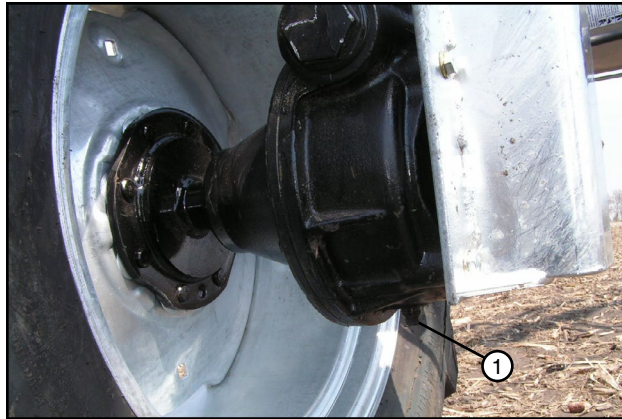

Figure 30-1 1. Drain Plug Wheel Gearbox
2. Remove the drain plug from wheel gearbox, bell housing and gear motor. Drain oil into a container. See Figure 30-1 and 30-2.